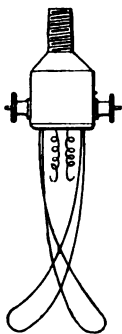

Fig. 66.—Adapter for Loop Lamp.
*Bow-Spring Side-Contact Holder.*—This holder is used for 16 candle-power lamps. The arrangement is shown in Fig. 66.